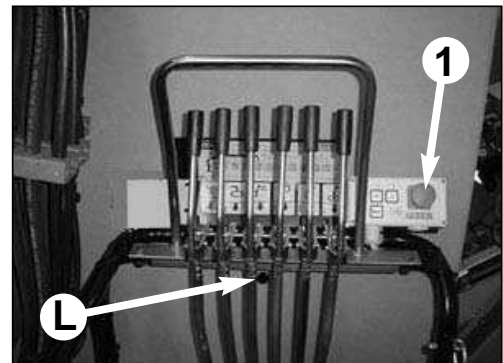
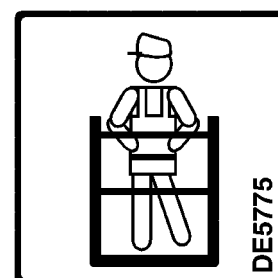

fig. 15
fig. 16b
On the control panel, further to the control levers and to the plates, we can find the supplementary electric control panel (fig. 15 pos. 1).
**The operator's presence in the stand-up control station activates photocell L (fig. 15) that automatically prevents the crane from rotating above the station and activates the flashing of the green light in the different control panels near the plate DE5775 (fig. 16b).**
**Before accessing the stand-up control station make sure that the photocell L pilot-light (fig. 15) is turned on and green; then check its correct functioning: if put your hand in front of the photocell the pilot-light shall turn yellow (thus enabling the limitation of the rotation path). Besides, when entering the stand-up control station, before starting the crane operation, check that the limitation of the rotation path is active, see the flashing of the green light.**